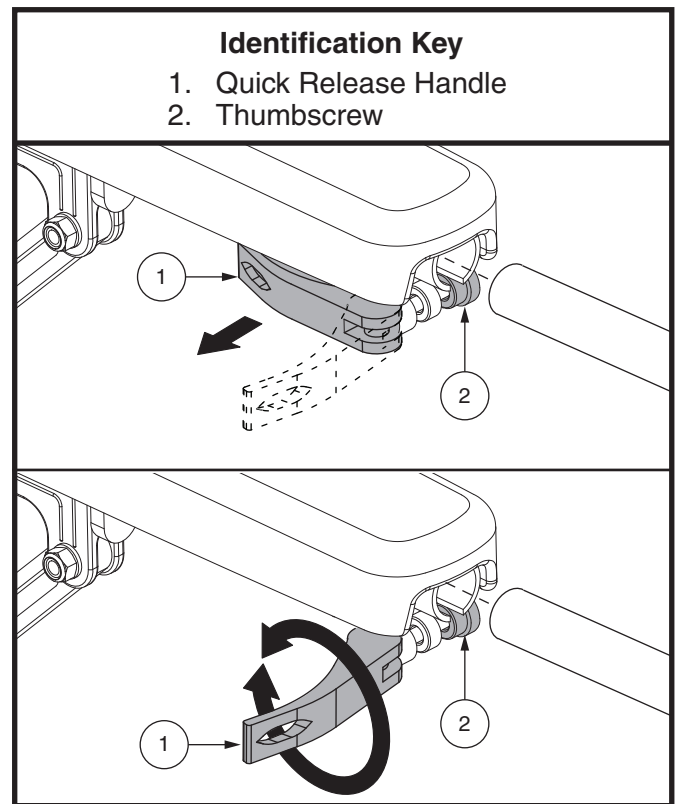
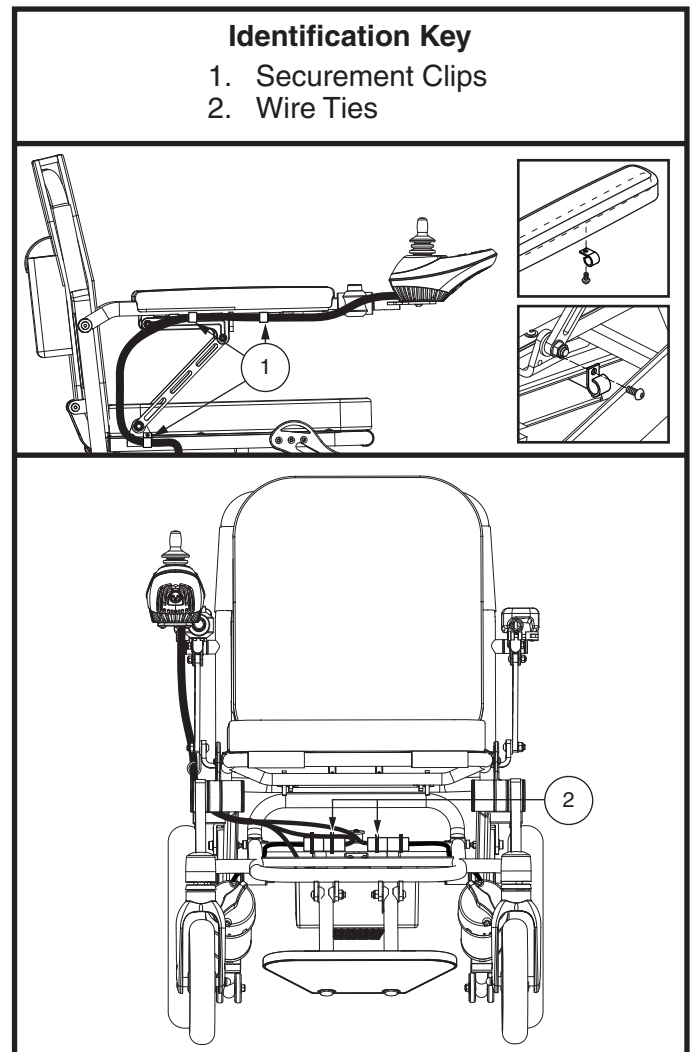

Figure 6. Armrest Component Removal/Installation
Figure 10. Controller Position
4. Insert the controller into the armrest and tighten the thumbscrew, then latch the quick release handle. **See figure 6.** Hook the controller harness to the securement clips. **See figure 10.**
3. Unlatch the quick release handle and loosen the thumbscrew, and then remove the controller from the armrest. **See figure 6.**
3. Unhook the controller harness from the securement clips. Uninstall the securement clips and reinstall them on the other side. **See figure 10.**
11. Use wire ties to secure the controller harness to the frame, and hook the controller harness to the securement clips. **See figure 10.** Ensure that the armrest can freely be raised and lowered without any tension on the harness so the securement clips do not become disconnected.